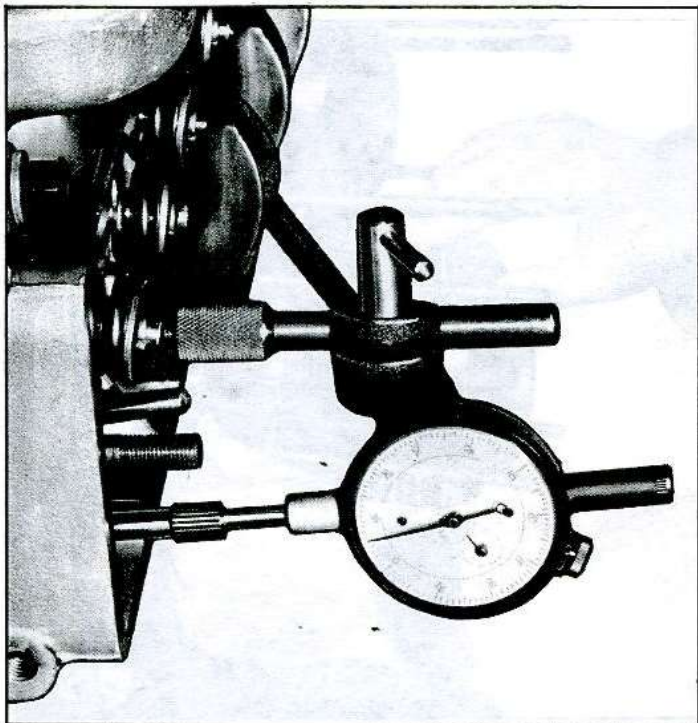

Fig. 42—Measuring Camshaft Lobe Lift
4. Install the push rod in place and make sure the push rod is in the lifter socket and adapter on Tool J-8520 (fig. 42).